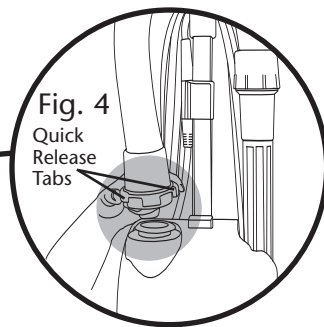

Fig. 4
4. Remove hose from the bag housing cover by using the quick release tabs. (Fig. 4). Look into upper hose and wand. Shake or insert broom handle to clear any visible debris. Replace hose and wand on vacuum.